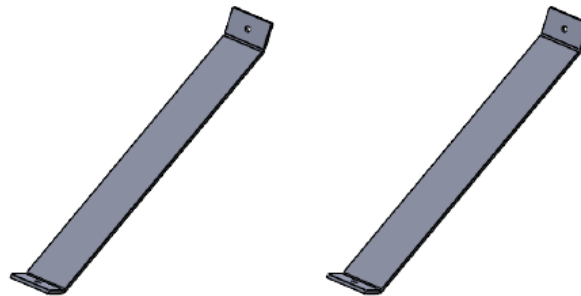

Figure 2: Stabilizer Brackets
- c. **Stabilizer Bracket** (2) - found in the middle shock absorber or taped to inside of the cardboard crate: see Figure 2: Stabilizer Brackets.